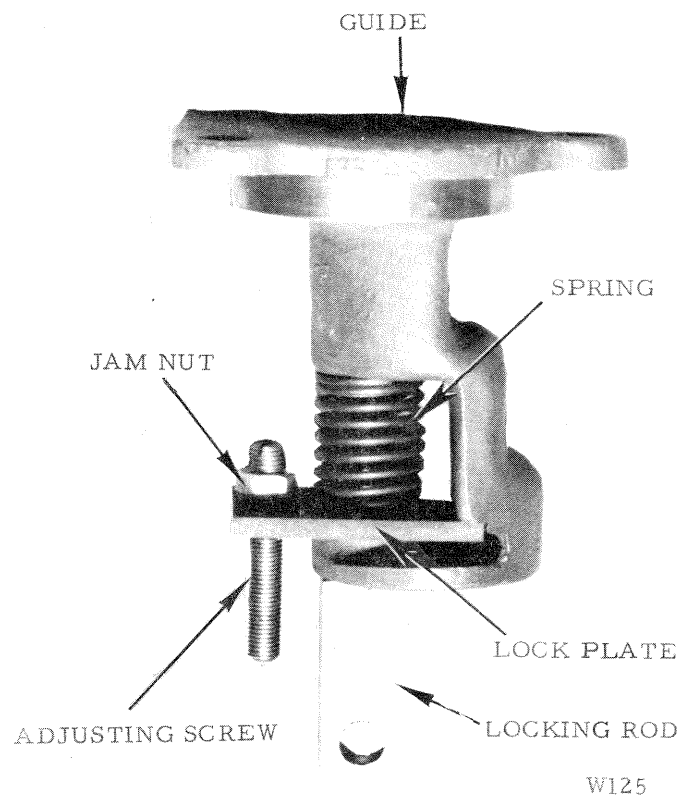

Figure 10
4. Disassemble the locking mechanism, fig. 10, as follows: